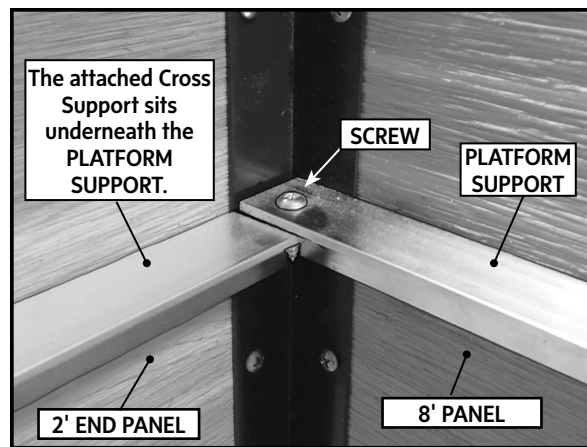

Figure 3
7. Use a rubber mallet to tap a 2' END PANEL into the open channel of a CORNER, positioning it so the attached CROSS SUPPORT sits underneath the PLATFORM SUPPORT on the 8' Side Panel (Fig. 3). Make sure the top of the END PANEL sits  $\frac{1}{8}$ " above the top of the CORNER and is fully seated inside, then insert SCREWS into the holes in the CORNER and through the lined up holes in the ends of the CROSS SUPPORT and PLATFORM SUPPORT. Repeat to attach the remaining 2' END PANEL to the same 8' panel.